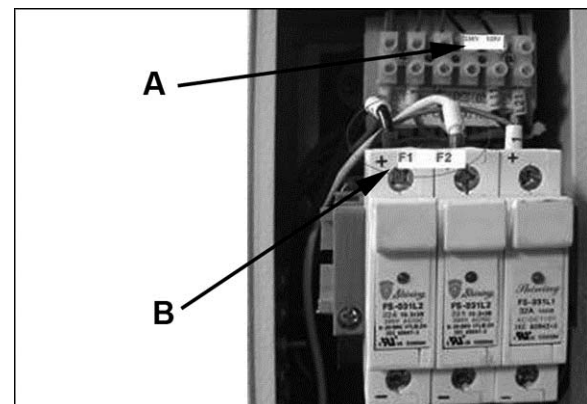

Figure 8
2. On the transformer, reconnect the L11 line from the 120V terminal to the 230V terminal (A, Figure 8).
3. Replace the 20 amp fuses with 10 amp fuses in the first two fuse holders (B, Figure 8).